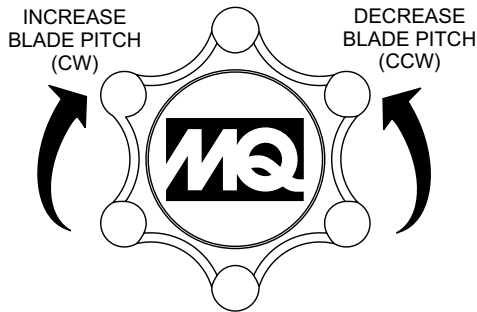

Figure 8. Adjusting Cable Blade Pitch (Standard Handle)
1. For trowels equipped with a **Standard** handle (SXHC), simply turn the **star wheel** counterclockwise to pitch the blades flat. This will release the tension on the blade pitch cable (Figure 8).